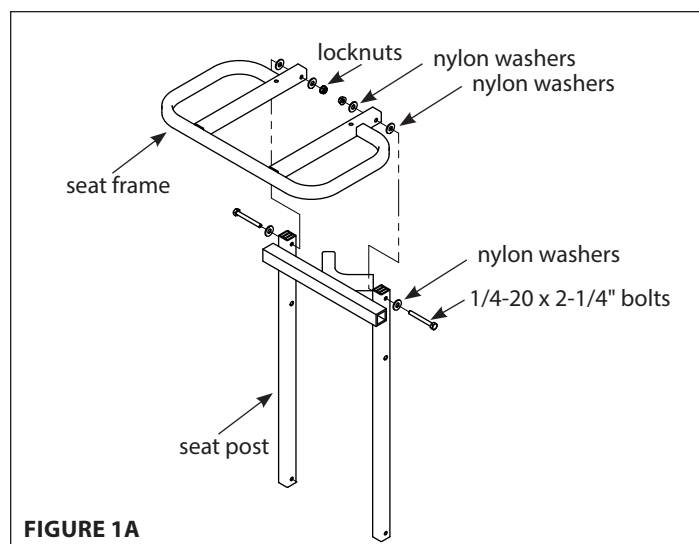

FIGURE 1A
1. Bolt the metal seat frame (C30) or (C33) onto the seat post using the (2) provided 1/4-20 x 2-1/4" bolts, locknuts and (6) nylon washers. **SEE FIGURES 1A OR 1B. DO NOT tighten all nut & bolt assemblies completely!**